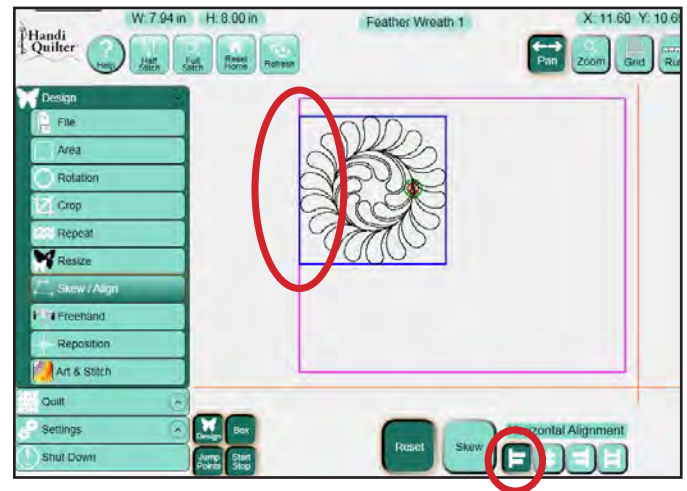

Figure 5.63
**Align Left:** (Figure 5.63) The left side of the design's bounding box (the light blue box) aligns with the left-most point of the **Area** (represented by the purple lines).